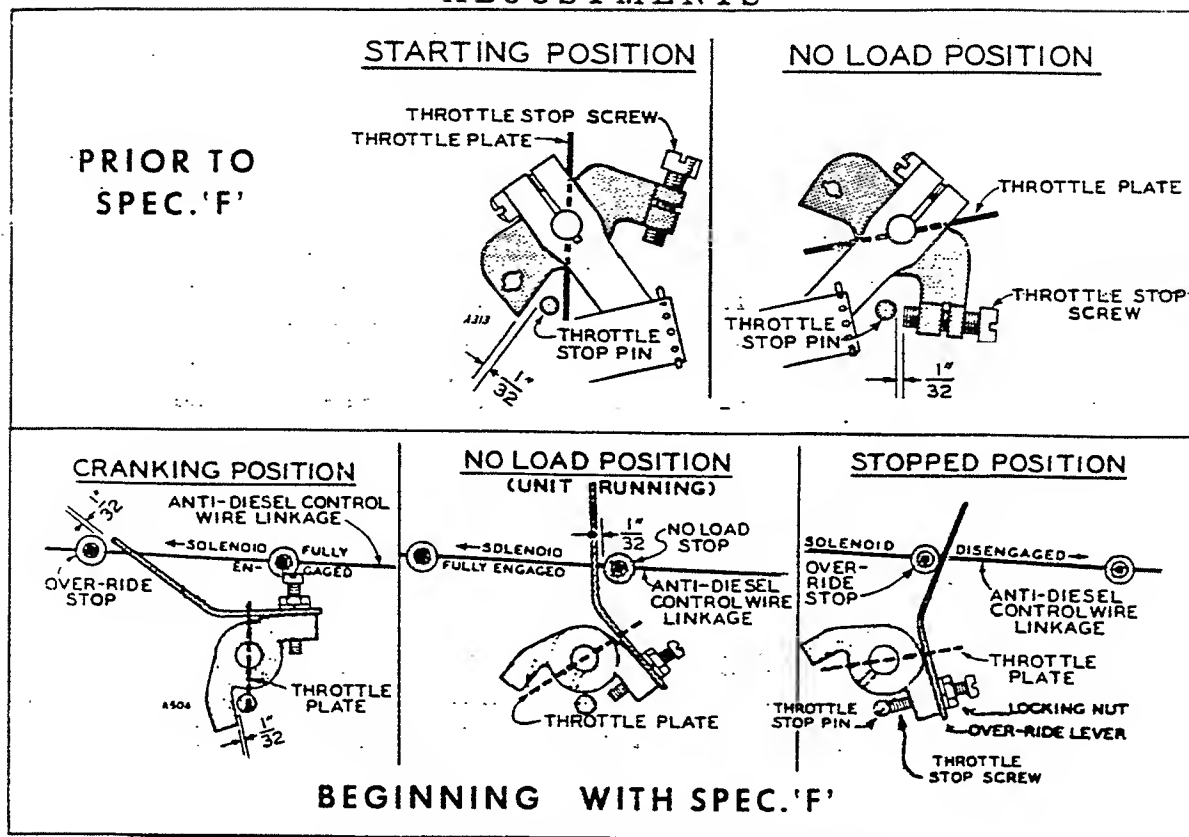

FIG. 19 - THROTTLE STOP ADJUSTMENT
**ANTI-DIESELING HOLDING SWITCH.** - The micro switch, at the anti-dieseling solenoid, shorts across the resistor in the solenoid circuit, giving full battery voltage momentarily to pull in the plunger for engine starting and running. See Fig. 19.